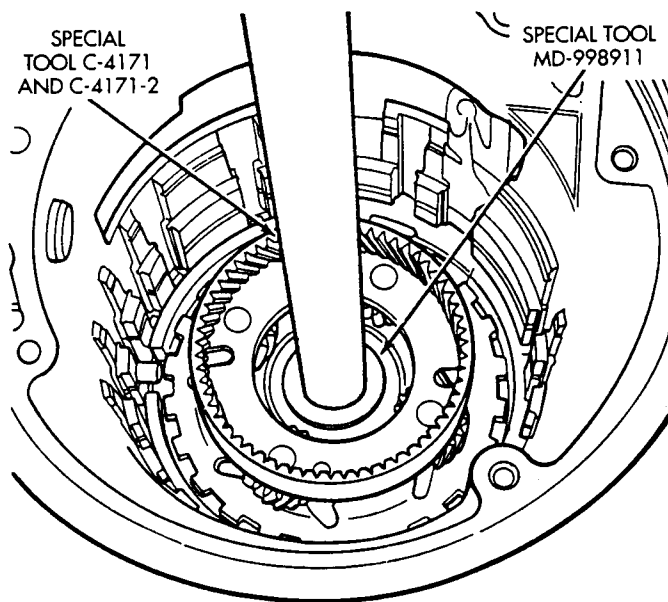

Fig. 5 Press Shaft Into Case
(6) Install output shaft/rear carrier into rear bearing. The shaft must be pressed into position. Use special tool MD-998911 (Disc) and C-4171 and C4171-2 (Handle) to press shaft into rear bearing (Fig. 5).